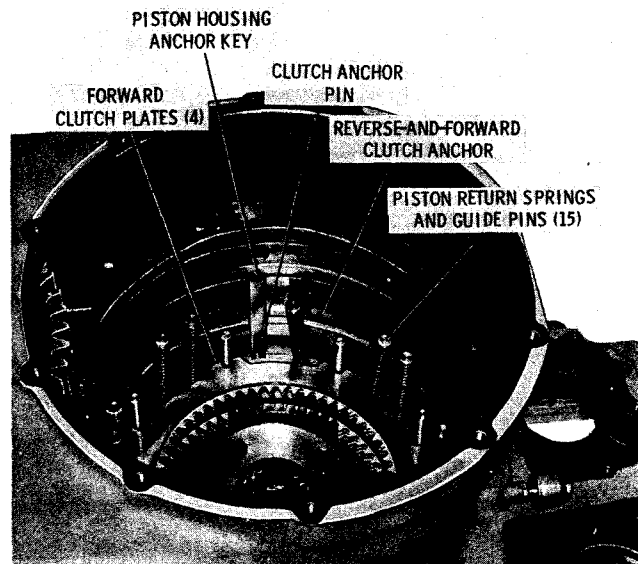

Fig. 5-32. Reverse-and-forward clutch anchor, piston return components, and forward clutch plates
(1) Remove the reverse and forward piston return springs and guide pins (fig. 5-32). Remove the piston housing anchor key and the remaining four forward clutch plates from the clutch anchor. Remove the clutch anchor assembly from the transmission housing. Refer to paragraph 6-17 for the clutch anchor assembly rebuild instructions.
(2) Remove the reverse planetary carrier assembly and seven of the reverse clutch plates which are held by the spacer ring on the carrier (fig. 5-32). Separate the plates from the carrier. Refer to paragraph 6-18 for the reverse planetary carrier assembly rebuild instructions. Remove the remaining seven clutch plates from the transmission housing.